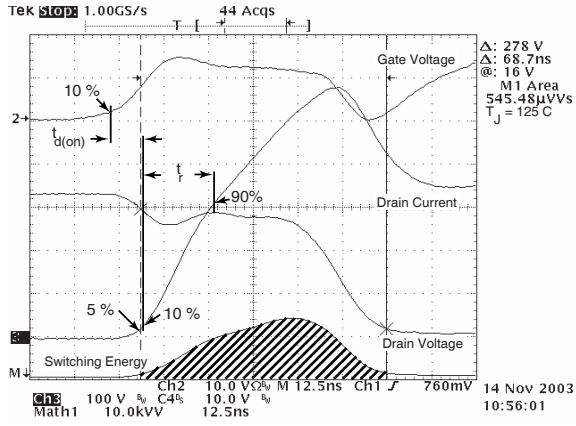

Figure 18, Turn-on Switching Waveforms and Definitions
③ See MIL-STD-750 Method 3471
④ Starting  $T_J = +25^\circ C, L = 2.12mH, R_G = 25\Omega, \text{Peak } I_L = 35A$
⑤  $dv/dt$  numbers reflect the limitations of the test circuit rather than the device itself.  $I_S \leq -35A, di/dt \leq 700A/\mu s, V_R \leq 500V, T_J \leq 150^\circ C$
⑥  $E_{on}$  includes diode reverse recovery. See figures 18, 20.